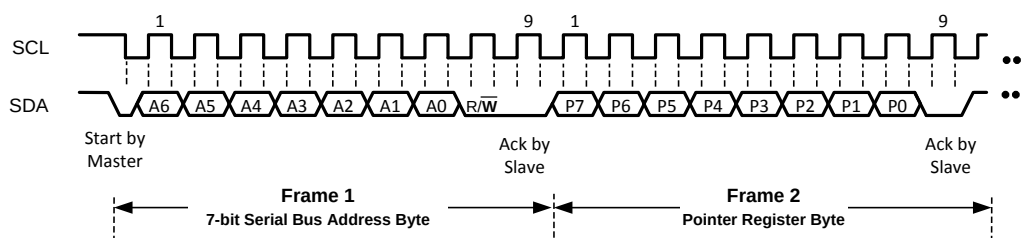

Figure 12. Trigger Humidity/Temperature Measurement
2. Trigger the measurement by executing a pointer write transaction. Refer to Figure 12